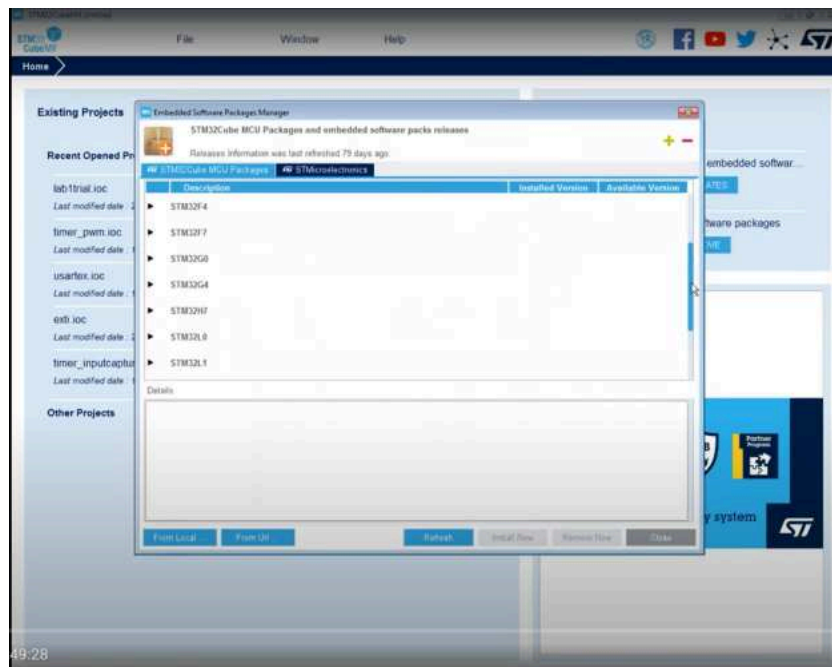

Figure 3
2. According to the microcontroller you have, the relevant package (STM32F4) is selected and installed (Figure 3).